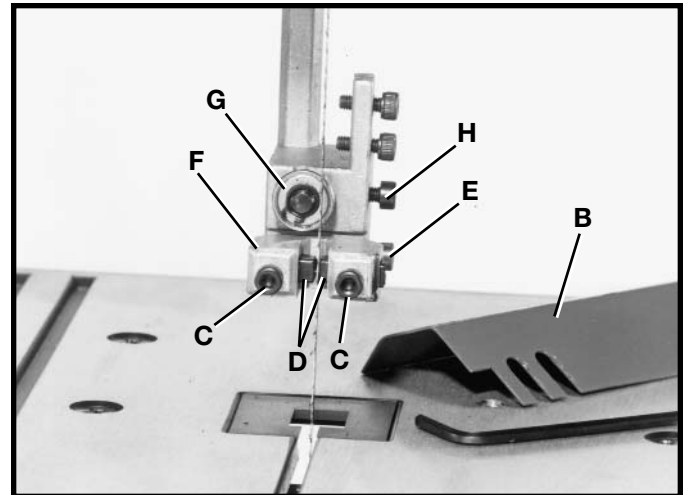
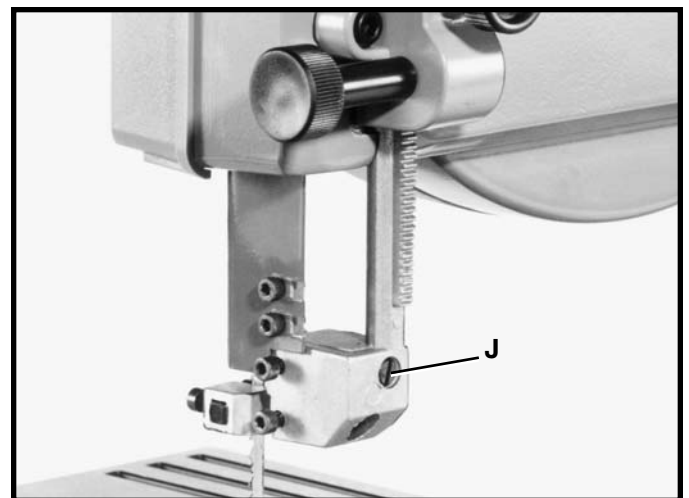

Fig. 22
Fig. 23
1. **NOTE:** Upper blade guard (B) Fig. 22, is shown removed for clarity.
2. Loosen the two screws (C) Fig. 22, and adjust the blade guides (D) as close as possible to the sides of the saw blade, being careful not to pinch the blade. Then tighten the two screws (C).
3. Loosen screw (E) Fig. 22, and move the guide bracket (F) in or out until the front edge of the guides (D) are just behind the “gullets” of the blade teeth. Then tighten screw (E).
4. The upper blade support/thrust bearing (G) Fig. 22, prevents the saw blade from being pushed back too far when cutting. The support bearing (G) should be adjusted approximately 1/32" behind the blade, so the back of the blade overlaps the outside diameter of the ball bearing by approximately 1/8". To adjust, proceed as follows:
5. Loosen screw (H) Fig. 22, and slide support bearing (G) in or out until it is approximately 1/32" behind the saw blade.
6. The upper blade support bearing (G) Fig. 22, is set on an eccentric shaft. To change position of bearing (G), use a straight screwdriver, rotate shaft (J) Fig. 23, until the blade properly overlaps the support bearing. Then tighten screw (H).